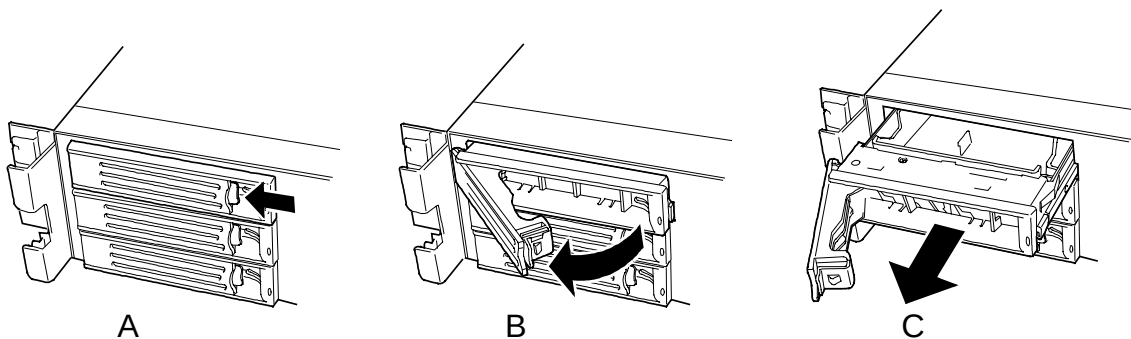

Figure 4-62. Removing a Hard Disk Drive
4. Push the latch to the left to unlock, and then open the tray handle. See Figure 4-62.